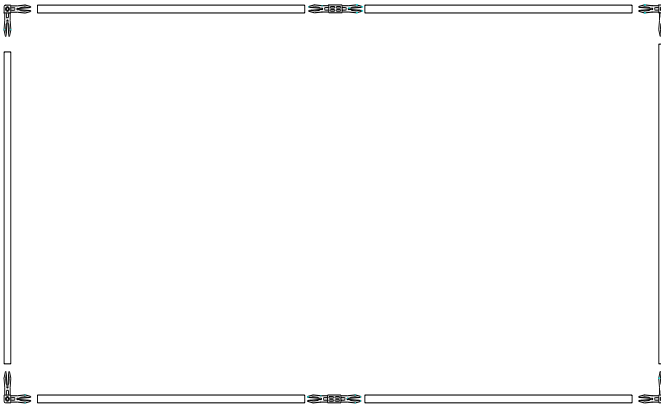

Figure 6: Diagram of 2 ft x 4 ft frame
- 1 Build the 2 ft x 4 ft frame structure as shown in Figure 6 using six 2 ft aluminum frame tubing pieces, four right-angle tubing connectors, and two straight tubing connectors. Remember to construct the frame so that all Velcro surfaces face in (toward the center of the structure).